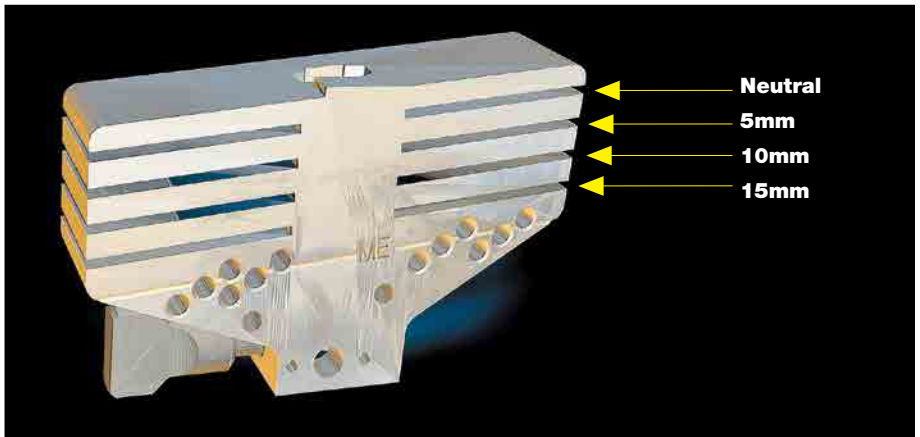

Figure 14
- 5mm, 10mm and 15mm distal augment cuts can be made with the femoral resection guide (Figure 14)